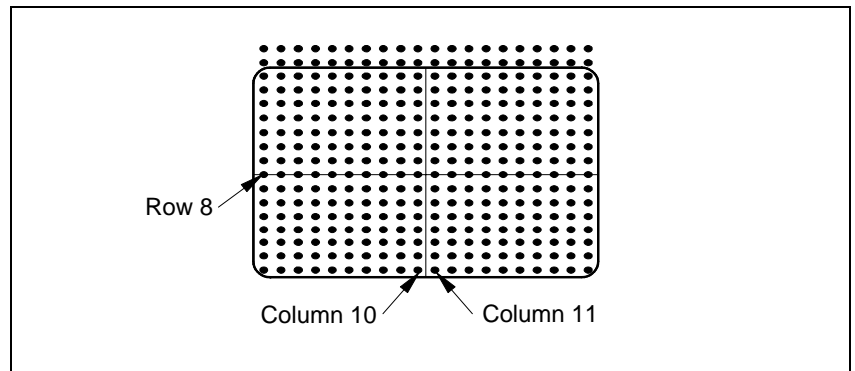

Figure 8-3. Centering the cross hairs
3. Center the camera cross hairs on the calibration pattern marked with letter 'B' as shown in Figure 8-3.
4. Center the cross hairs between column 10 and 11 on row 8 as in Figure 8-3 and press <Enter>.